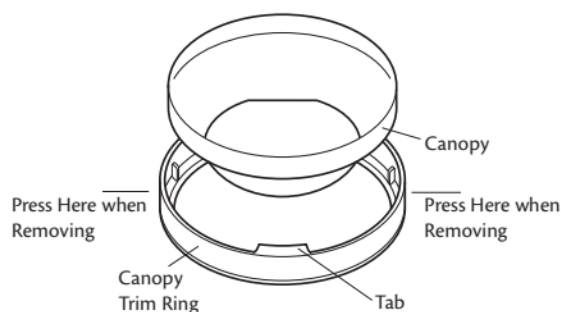

Figure 20 - Canopy trim ring
1. To easily install the canopy trim ring, locate the two tabs on the canopy trim ring. See Figure 20.
2. Take both hands and push the canopy trim ring up to the top of the canopy. See Figure 20.